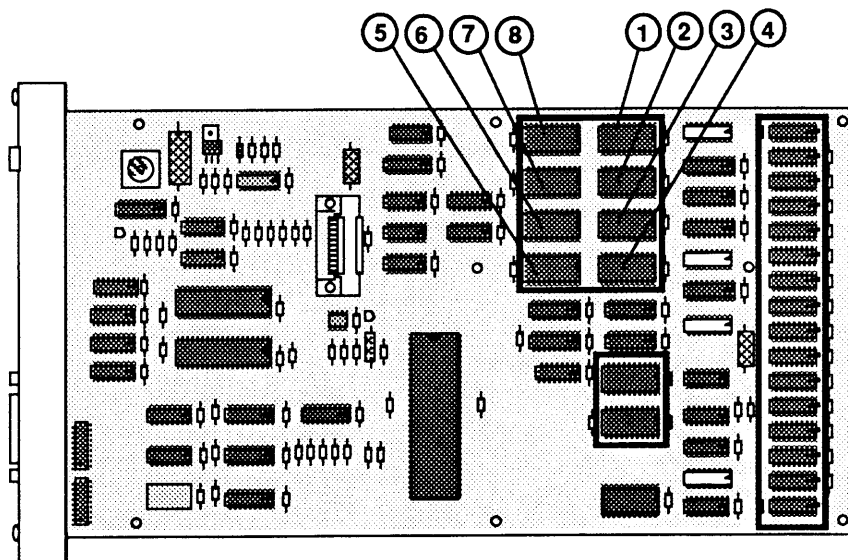

FIGURE 26
□ LW II NT CONTROLLER-I/O BOARD (Figure 26)